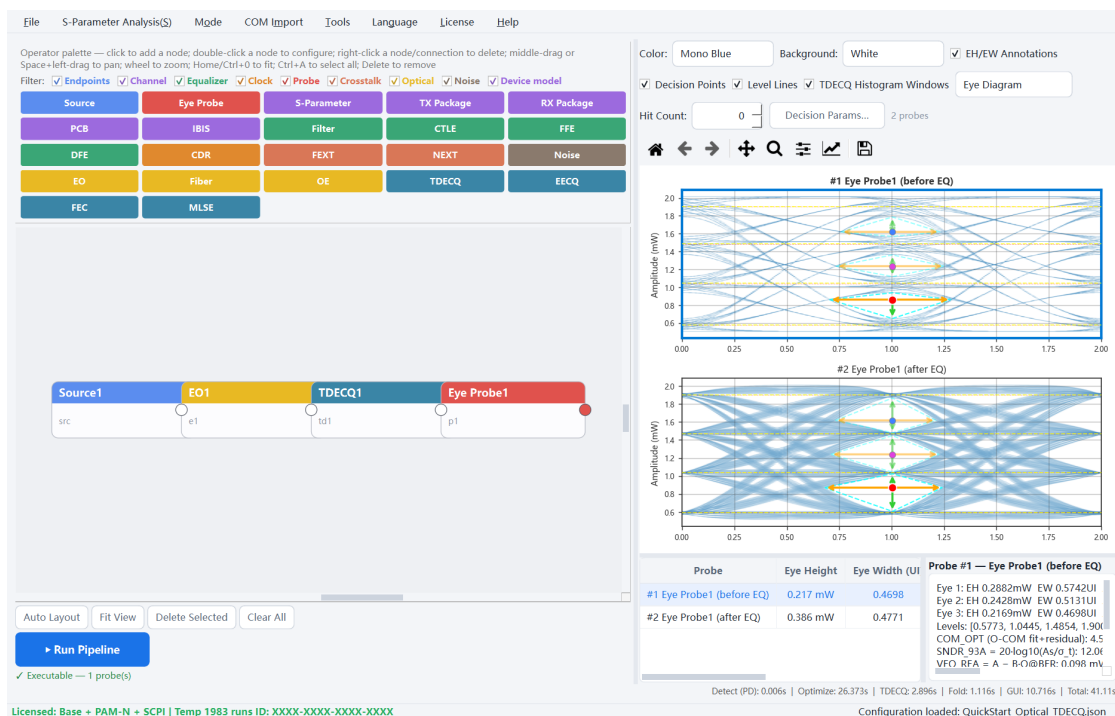

Fig. 8-3 Optical link + TDECQ reference receiver
Step 4 For an optical eye, use **File** → **Load Configuration...** to load `demo\configs\QuickStart_Optical_TDECQ.json`. It opens Expert with **Source** → **EO** → **TDECQ** → **Probe**: PAM4 / 53.125 GBd / PRBS13 / 32 samples/UI, EO bandwidth 40 GHz and extinction ratio 6 dB; reference FFE optimization is enabled. Click Run Pipeline and wait for optical eyes and a finite TDECQ reading (Fig. 8-3). This is a minimal modulator example without fiber or OE; build a longer optical link separately when needed.